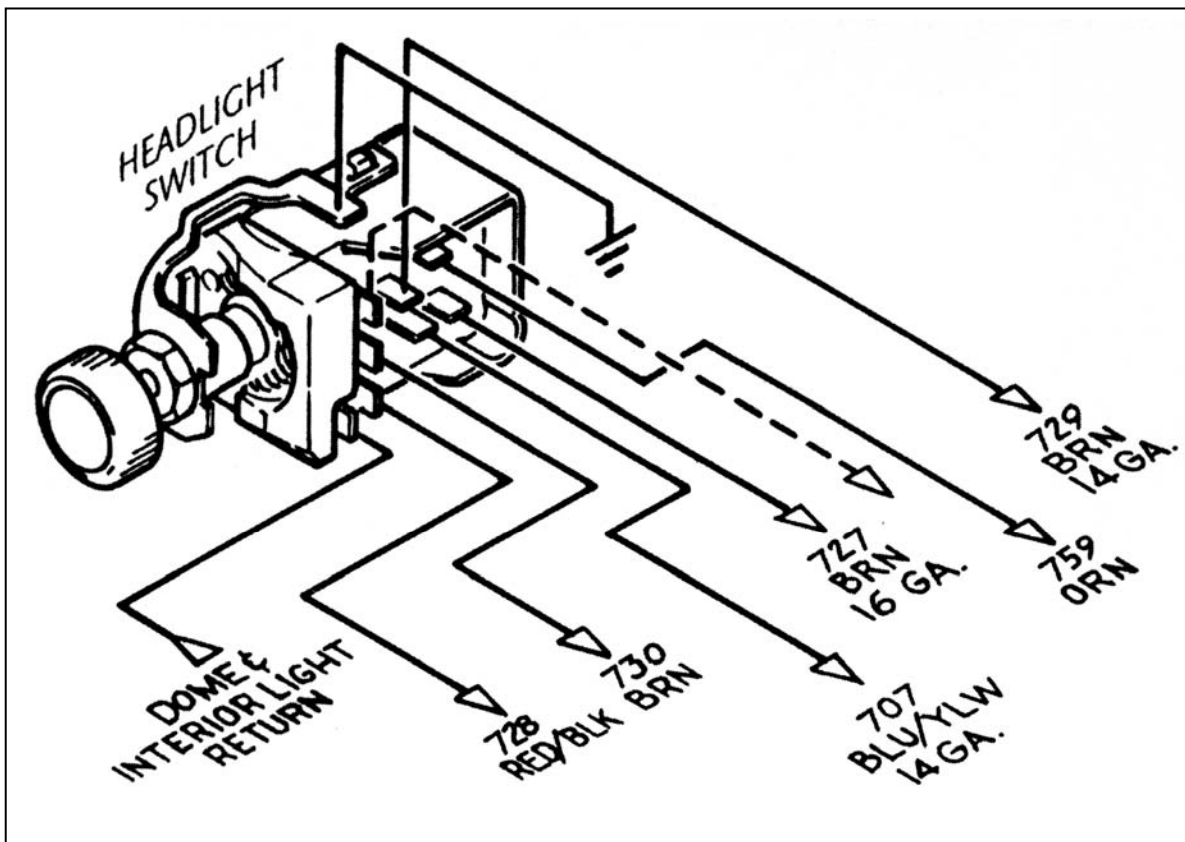

Figure 7.6 HEADLIGHT SECTION B (GM Style – Painless Part #80152)
## 7.7 HEADLIGHT SECTION B Wiring. See Figure 7-6.
*Note: On late-style GM headlight switches, the park lights terminal to which wire #727 (brn) is connected (shown in Figure 7-6) has been omitted. In this case, wire #727 must be connected as indicated by the dashed line in Figure 7-6.*